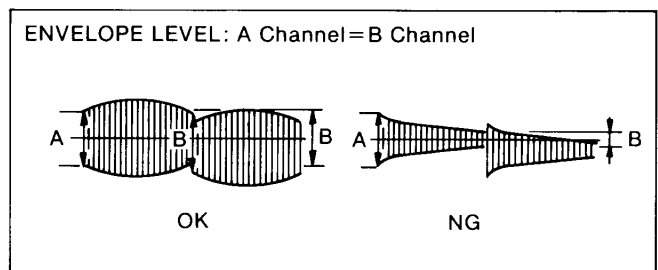

Figure E9
4. Adjust VR2206 so that the RF envelope becomes the same level between A and B portions as shown in Figure E9.